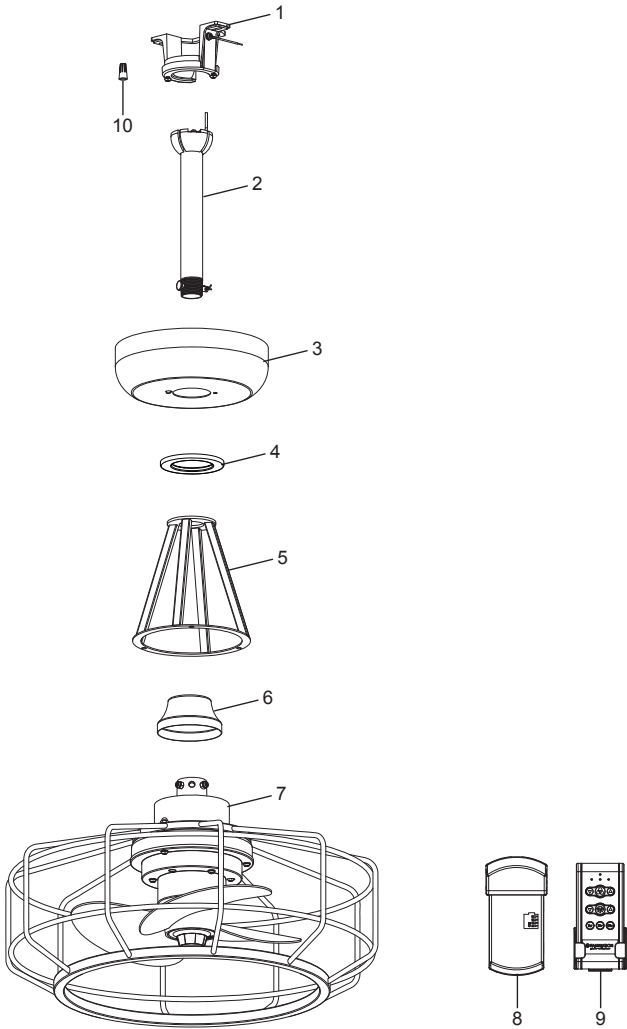

Figure 1
1. Assemble canopy by rotating key slot in canopy over shoulder screw in hanger bracket, taking care not to pinch the wires. Tighten shoulder screw. Fully assemble and tighten second shoulder screw that was previously removed. (Figure 1)
- 1. **IMPORTANT:** Using a full range dimmer switch (not included) to control fan speed will damage the fan. To reduce the risk of fire or electrical shock, do not use a full range dimmer switch to control the fan speed. (Figure 1)
1. **Installing Wall Holder:** (Figure 1)